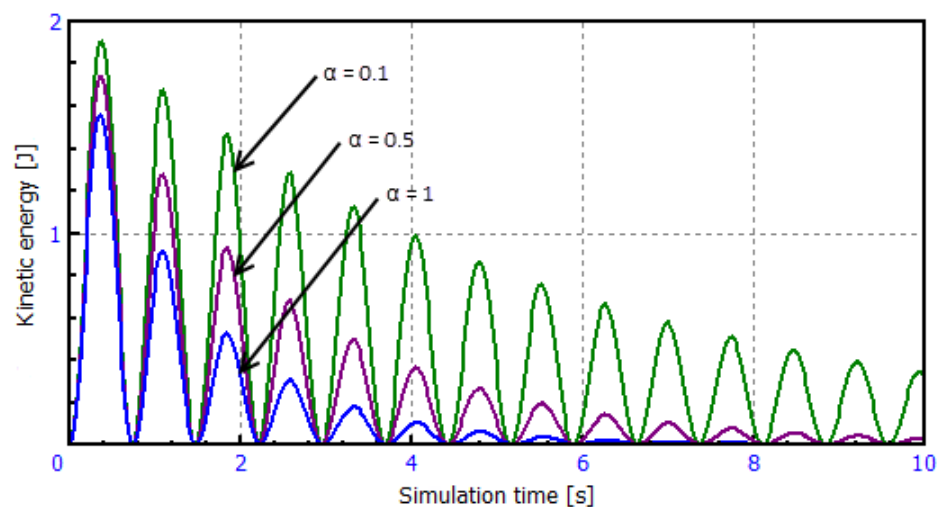

Figure 3.10. Kinetic energy drop at different values of the additional damping parameter
2. Go to **Options | General options** tab. In **Equilibrium computation type** group set **Integration of equations of motion** as a method of defining Equilibrium position, Figure 3.10.
Damping coefficient  $\alpha$  is set on a tab **Options | Parameters** in **parameter of additional damping** field. Run the equilibrium calculation with different values of the coefficient  $\alpha$ , for example 0.1, 0.5 and 1. Observe the effect in the animation window. In Figure 3.10 there is a comparison of the kinetic energy drop when  $\alpha = 0.1$ ,  $\alpha = 0.5$  and  $\alpha = 1$ .